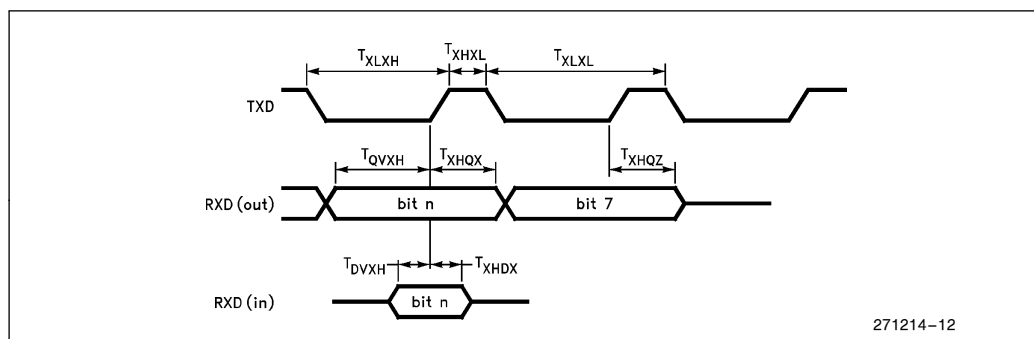

Figure 14. Serial Port Mode 0 Waveform
1. See Figure 14 for waveforms.